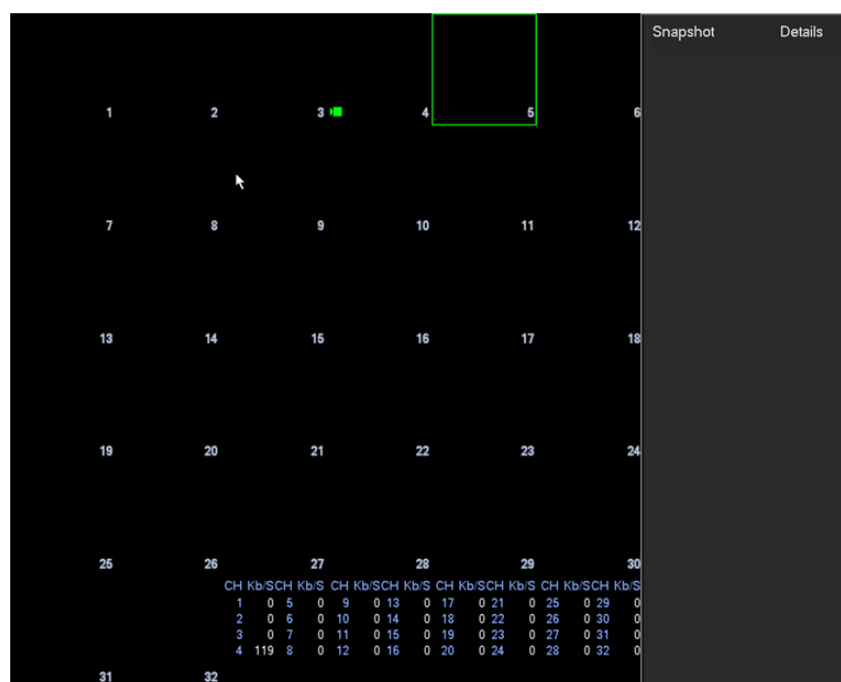

Figure 3-36
- ✧ Human face: System will display human face information on the right pane of the preview interface. See Figure 3-36.